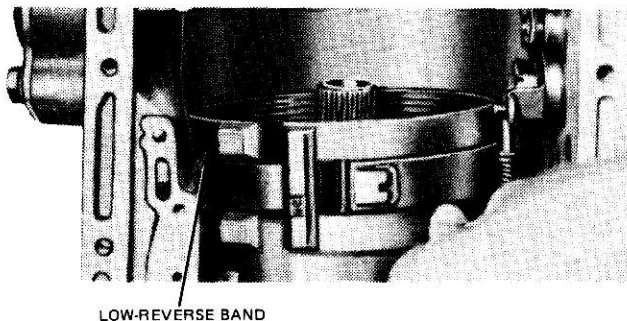

FIG. 29 Removing or Installing Low-Reverse Band
14. Install thrust washer No. 8 on top of the low and reverse drum (Fig. 41). Install the low-reverse band in the case, with the end of the band for the small strut toward the low-reverse servo (Fig. 29).